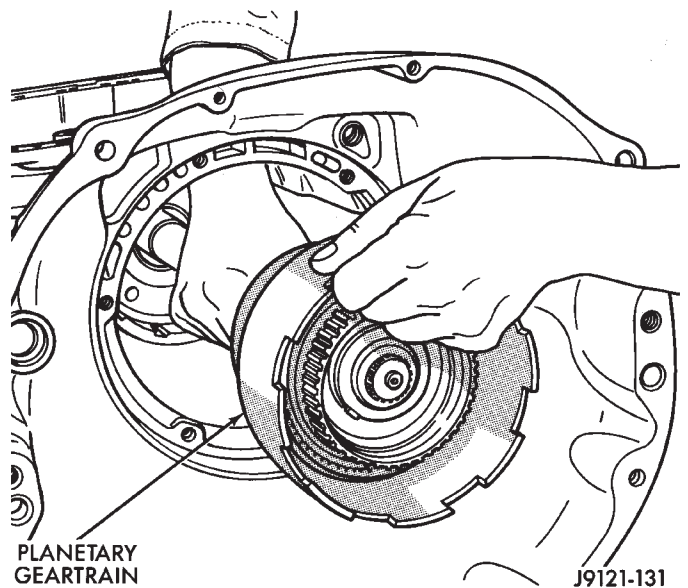

Fig. 139 Installing Output Shaft And Planetary Geartrain
(1) Lubricate output shaft, rear support bore and low-reverse drum hub with transmission fluid.
(2) Install assembled output shaft and planetary geartrain in case (Fig. 139).